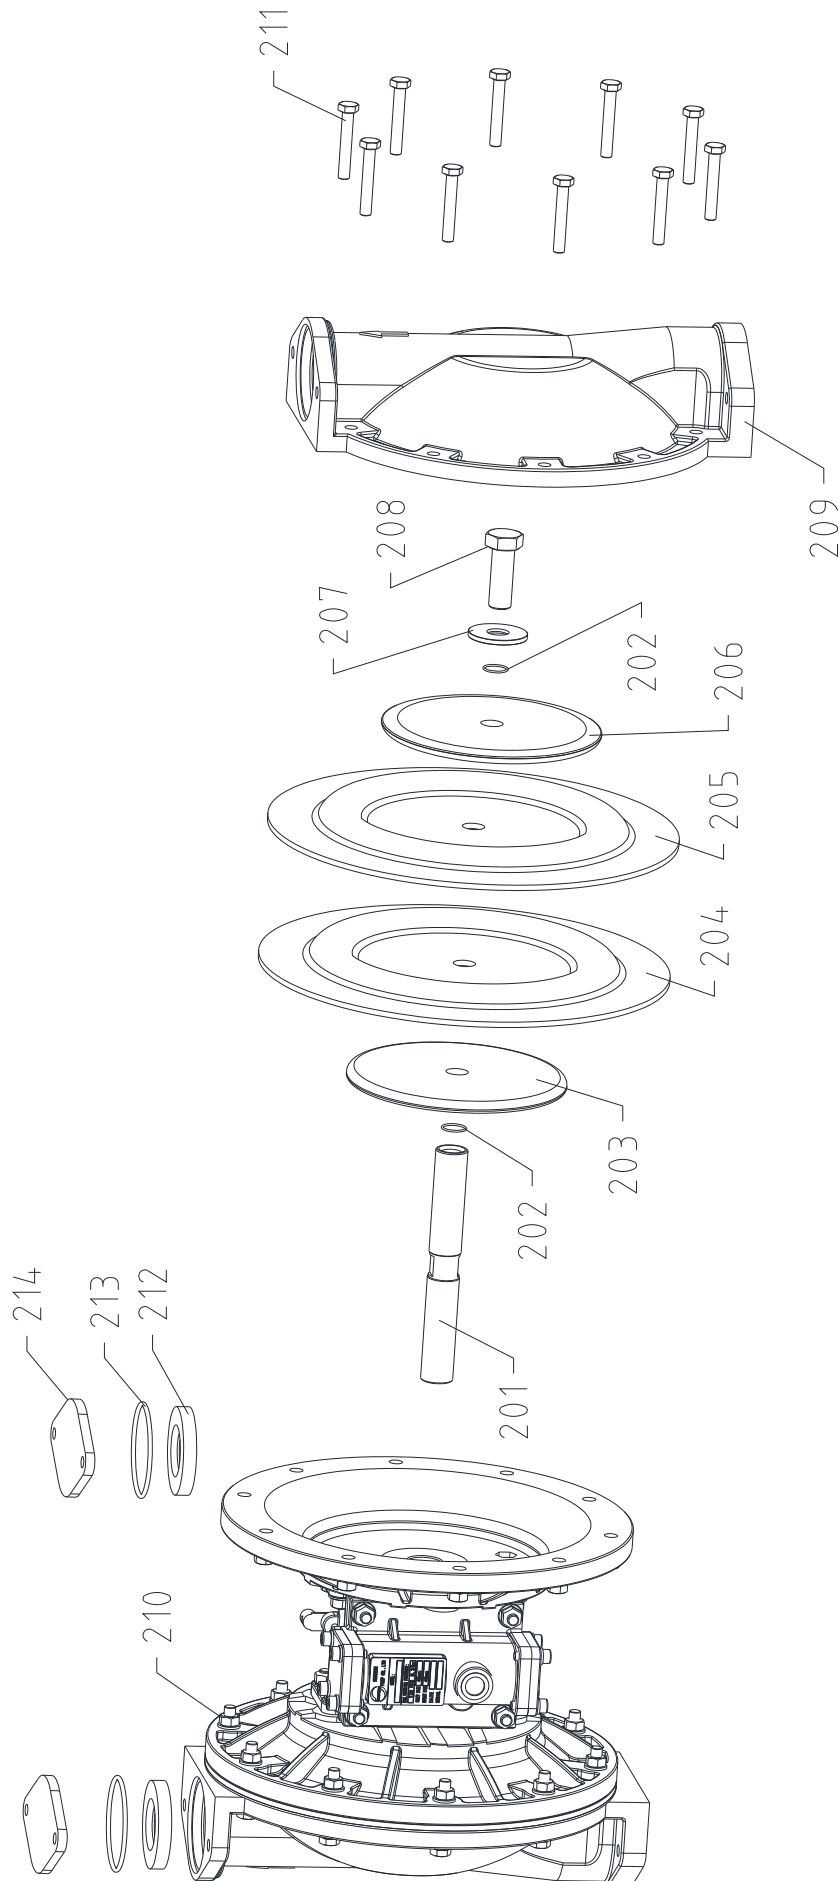

Figure 5
1. Remove (214),(213),(212). See Figure 5.
3. Remove (211),(209),(208),(207),(202),(206),(204),(203),(202),(201). See Figure 5.
**NOTE:** Only PTFE diaphragm models use a primary diaphragm(205) and a backup diaphragm (204). Refer to Figure 5.
- Reassemble in reverse order. Refer to Figure 5.
- Lubricate(201) diaphragm rod with white grease.
- Be certain (205) or (205/204) diaphragm(s) align properly with (209) fluid caps before making final torque adjustments on bolt and nuts to avoid twisting the diaphragm.
- For models with PTFE diaphragms: Item (204) santoprene diaphragm is installed with the side marked AIR SIDE towards the pump center body. Install the PTFE Diaphragm with the side marked FLUID SIDE towards the fluid cap.